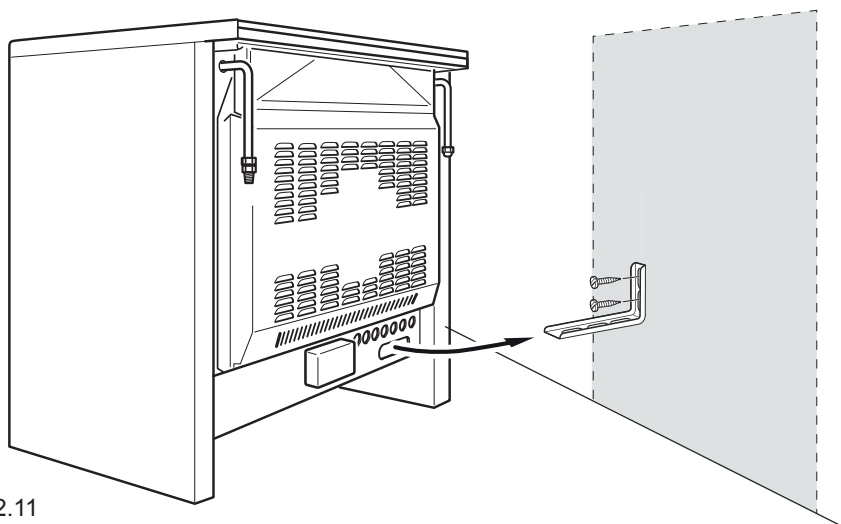

Fig. 2.11
1. After you have located where the cooker is to be positioned, mark on the wall the place where the two screws of the anti-tilt bracket have to be fitted. Please follow the indications given in fig. 2.11.
4. Move the cooker to the wall and adjust the height of the anti-tilt bracket so that it can engage in the slot on the cooker's back, as shown in fig. 2.11.